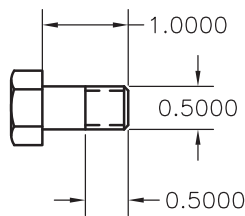
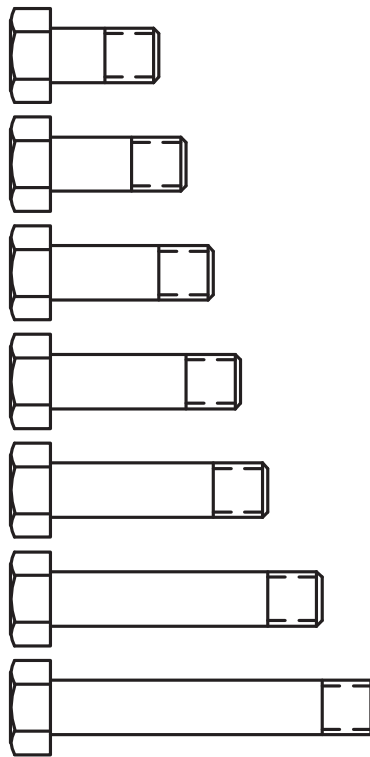

Fig. 34-13
Fig. 34-14
2. Create the hex bolt shown in Fig. 34-13. Approximate the size and shape of the hex head. Then make a dynamic block of the bolt, creating a parameter and action to stretch the length of the bolt's shank. Create a value set of the following shank lengths: 1.00, 1.25, 1.50, 1.75, 2.00, 2.50, and 3.00 inches. Place seven blocks in the drawing, and use the constraints of the value set to create one bolt of each length. Your finished drawing should look similar to Fig. 34-14. Save the file as **dynbolt.dwg**.